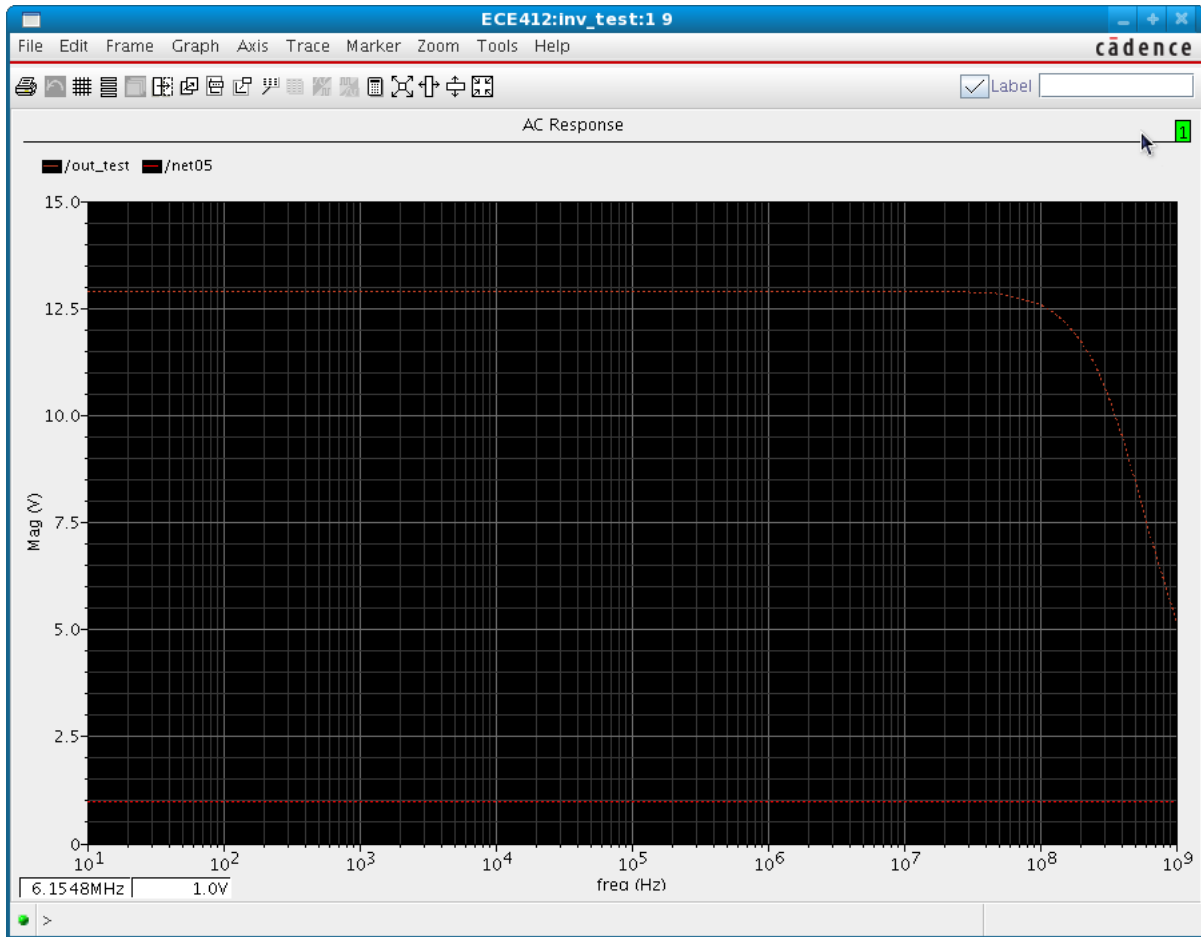

Figure 22: AC analysis for an inverter
5. Under Data View: Disable all other analyses and make sure that “ac” is checked. Start the simulation. If the plots do not appear go to **adex1** tab then **Results** and click on “Plot All”. The simulation result will look like figure 22.